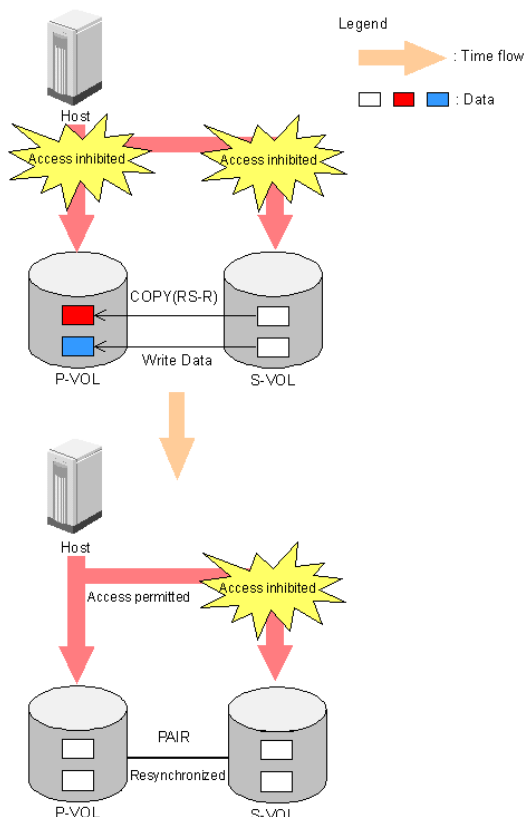

Figure 238 Reverse and quick restore pair operations
- **Reverse.** This operation (see Figure 238) synchronizes the P-VOL with the S-VOL. The copy direction for a reverse pairresync operation is S-VOL to P-VOL. Table 82 lists operational requirements for the reverse pairresync operation. The pair status during a reverse resync operation is COPY(RS-R), and the P-VOL and S-VOL become inaccessible to all hosts for write operations during a reverse pairresync operation. When the reverse pairresync is complete, the P-VOL becomes accessible. The reverse pairresync operation can only be performed on split pairs, not on suspended pairs. The reverse pairresync operation cannot be performed on L2 cascade pairs.
- **Quick Restore.** This operation (Figure 238) speeds up reverse resync by changing the volume map in the disk array to swap the contents of the P-VOL and S-VOL without copying the S-VOL data to the P-VOL. The P-VOL and S-VOL are resynchronized when update copy operations are performed for pairs in PAIR status. The pair status during a quick restore operation is COPY(RS-R) until the volume map change is complete. The P-VOL and S-VOL become inaccessible to all hosts for write operations during